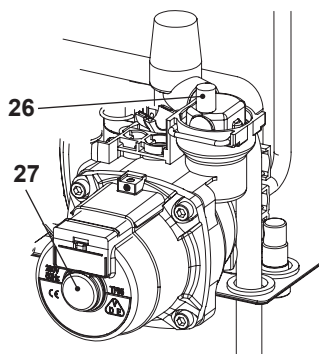

Fig. 7.2
- Unscrew the cap on the automatic air purger valve 26 in Fig. 7.2 one full turn and leave open permanently.
- Purge the air from the pump by unscrewing the pump plug 27 (Fig. 7.2); release the pump shaft by turning in the direction indicated by the arrow on the information plate.